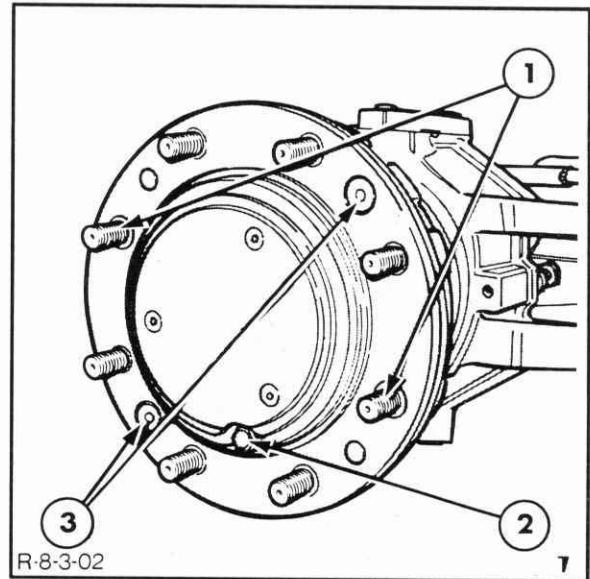

Figure 7-83
10. Ensuring that the thrust button is in place in the center of the carrier assembly, position the assembled planetary carrier to the hub and install the two retaining screws and the two special wheel studs, Figure 7-83. Tighten the screw and studs